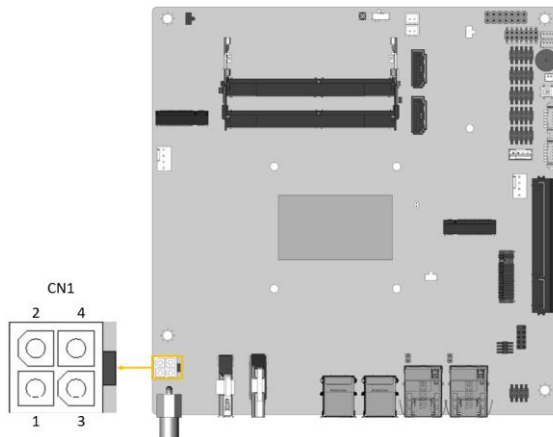

Figure 3-4: DC-IN Power Connector Location
- CN Location:** See **Figure 3-4**